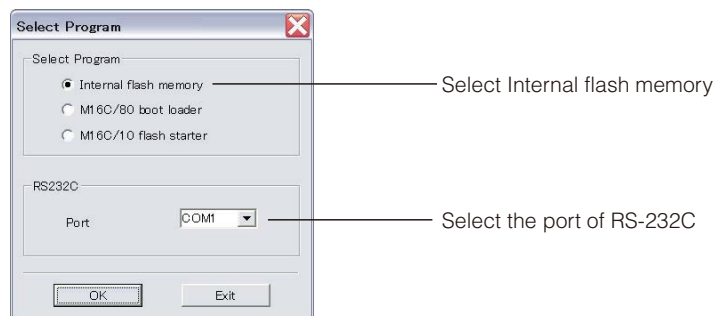

Fig. 2
The screen appears as shown below. (Fig. 2)
3. Select the data to be transmitted and port. (Fig. 2)